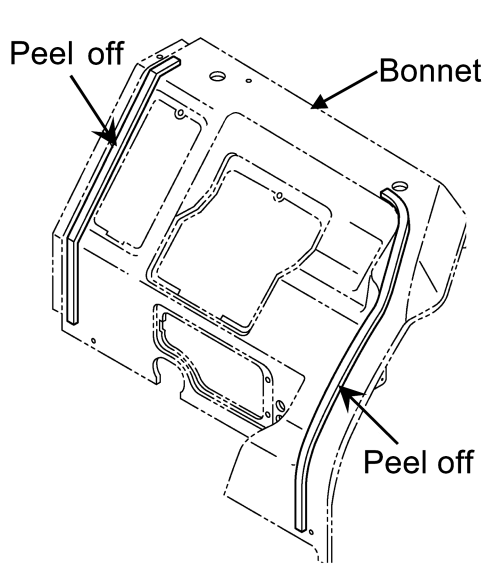

Fig.5
- (6) Connect the both battery cables.
- (7) Turn engine start key and turn the light switch on. And if the lights are on, the installation is completed.
- First, peel off the seal rubbers attached to the bonnet behind the seat carefully. (Fig.5)